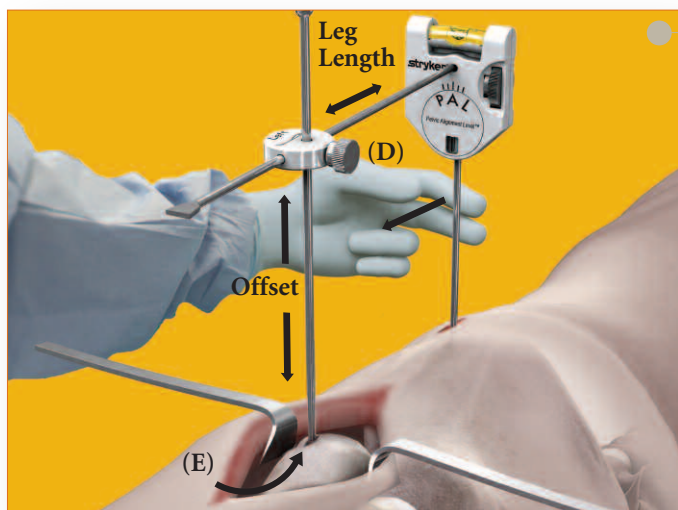

Figure 4A
iv. If pressure is required to center the bubble in the window, then the pressure the assistant surgeon is applying is maintained as the PAL is rotated 90 degrees so the stylus can be adjusted to just touch the suture placed into the fascia overlying the greater trochanter. The thumbscrew (D) is tightened into the disc which “captures” these relationships. (Figure 4A).